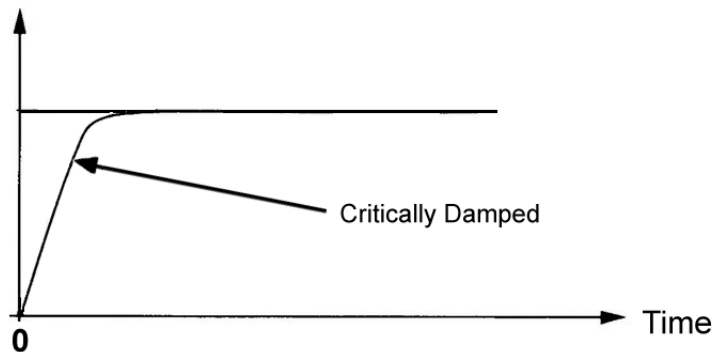

FIGURE 1. CRITICALLY DAMPED WAVEFORM SHOWING PROPER ADJUSTMENT FOR A FAST CURRENT STEP
**Critically Damped.** A critically damped step response is a perfect response and this is our goal when setting the damping settings for fast speed switching. As shown in Figure 1. There is no overshoot and no oscillation and the settling time is at optimal conditions.